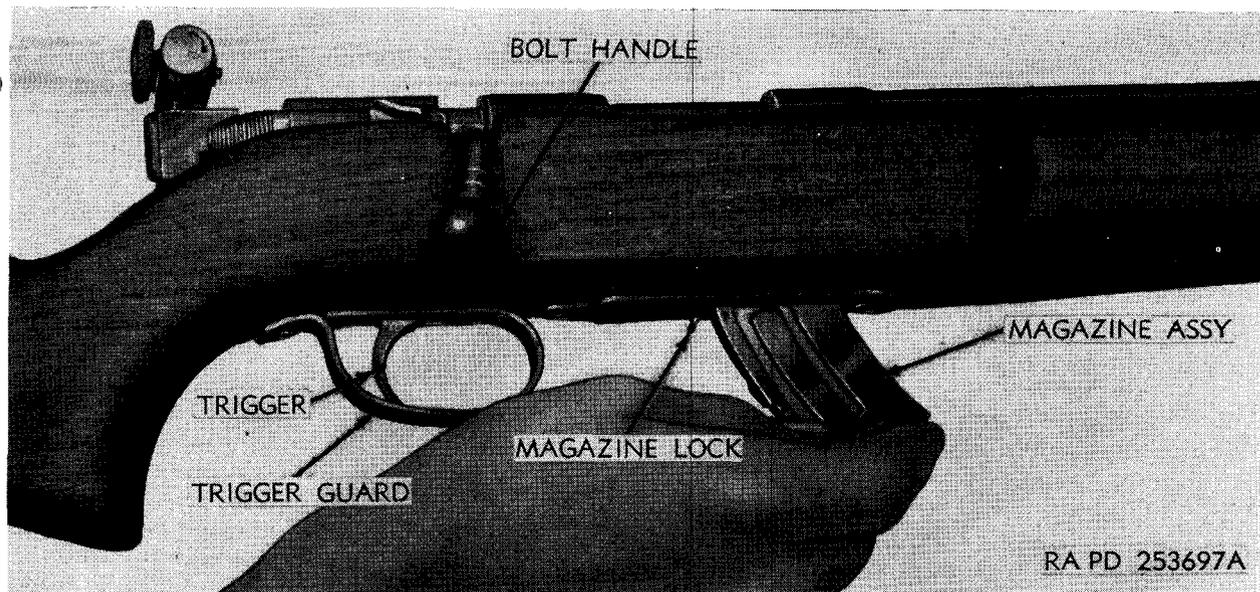

Figure 22. Installing or removing magazine assembly (Remington rifle M513T).
- (1) *Insert magazine.* Insert loaded magazine (par. 14) through the magazine opening at the bottom of the receiver just forward of the trigger guard (fig. 22) and push upward until locked in place. If an extra cartridge is to be used, proceed as in (2) below. If an extra cartridge will not be used, rotate bolt handle up and draw entirely to rear; then push bolt handle forward and rotate down against the receiver slot. This action cocks the rifle and pushes the top cartridge from the magazine into the chamber.
- (2) *Insert extra cartridge.* An extra cartridge, making a total of seven, can be used. To insert extra cartridge, open the bolt, place a cartridge fully in the chamber by hand and close the bolt before inserting the loaded magazine ((1) above).
- (1) *Remove chambered cartridge.* To unload a fired or live cartridge, rotate the bolt handle up and draw entirely to the rear.
- (2) *Remove magazine.* Press the magazine lock (fig. 22) back towards the trigger and pull out the magazine assembly.